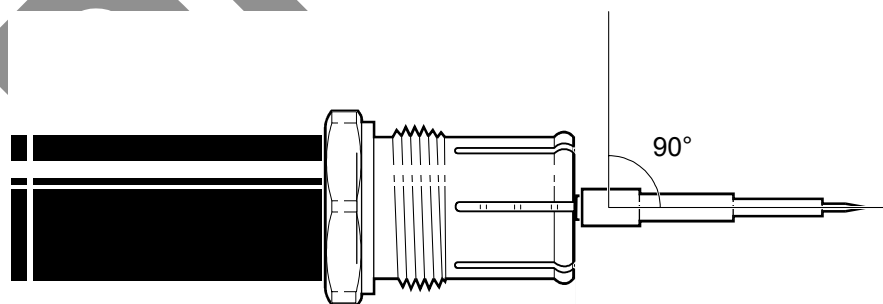

Figure 66 – Checking the pin
11. Verify that the pin is installed at a 90° angle with respect to the clamping nut, as shown in *Figure 66*. If the pin is not straight, and cannot be corrected, remove it, and start the procedure again.